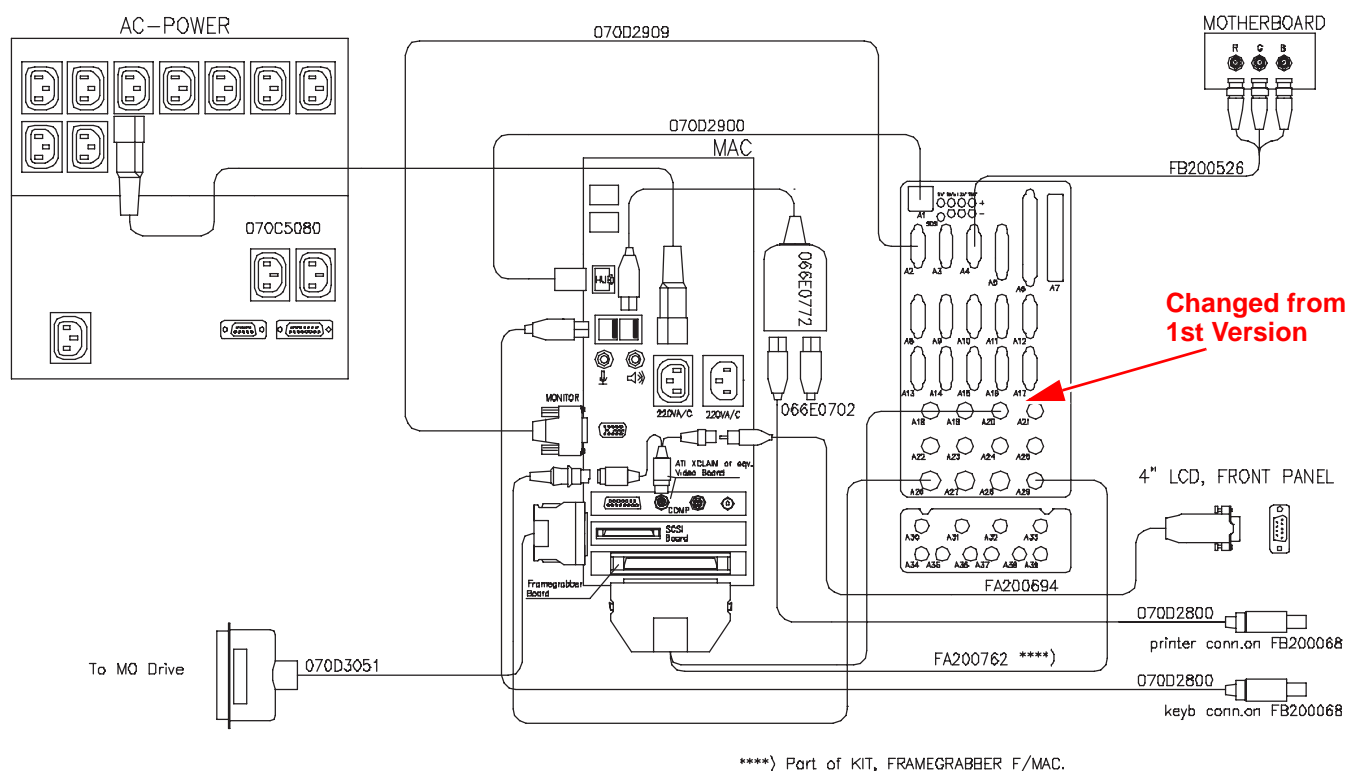

Figure 9-9 Internal MAC Cable Harness with 4" LCD. Macintosh Computer G4 V3, G4 V4, G4 V5 and G4 V6.
- Power Mac G4 V3 (See Figure 9-9 on page 9-27.)
- Power Mac G4 V4 (See Figure 9-9 on page 9-27.)
- Power Mac G4 V5 (See Figure 9-9 on page 9-27.)
- Power Mac G4 V6 (See Figure 9-9 on page 9-27.)